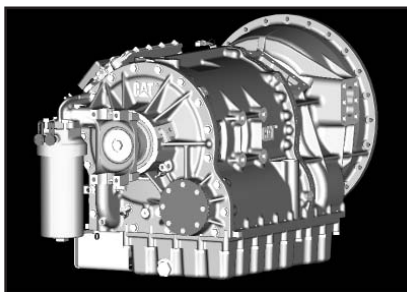

Fig. 1
1. Drain transmission oil before removing the rear aperture plate. After draining transmission fluid reinstall plug (**Fig. 1**).
2. Remove the PTO rear aperture plate with an 18 mm socket (**Fig. 1**).